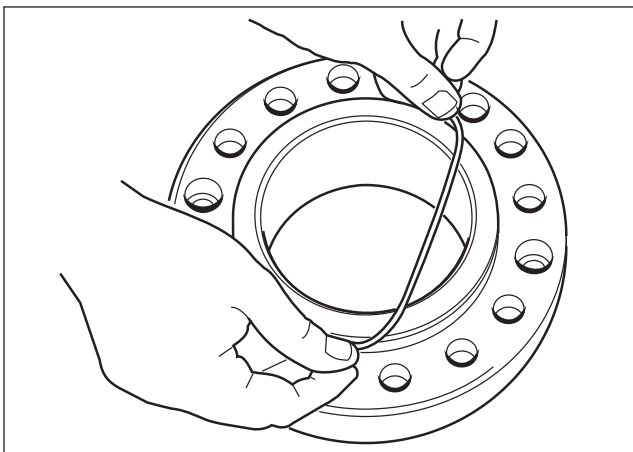

Fig. 3.2
2. Assembly the new o-ring in the slot of the spacer - Fig. 3.2